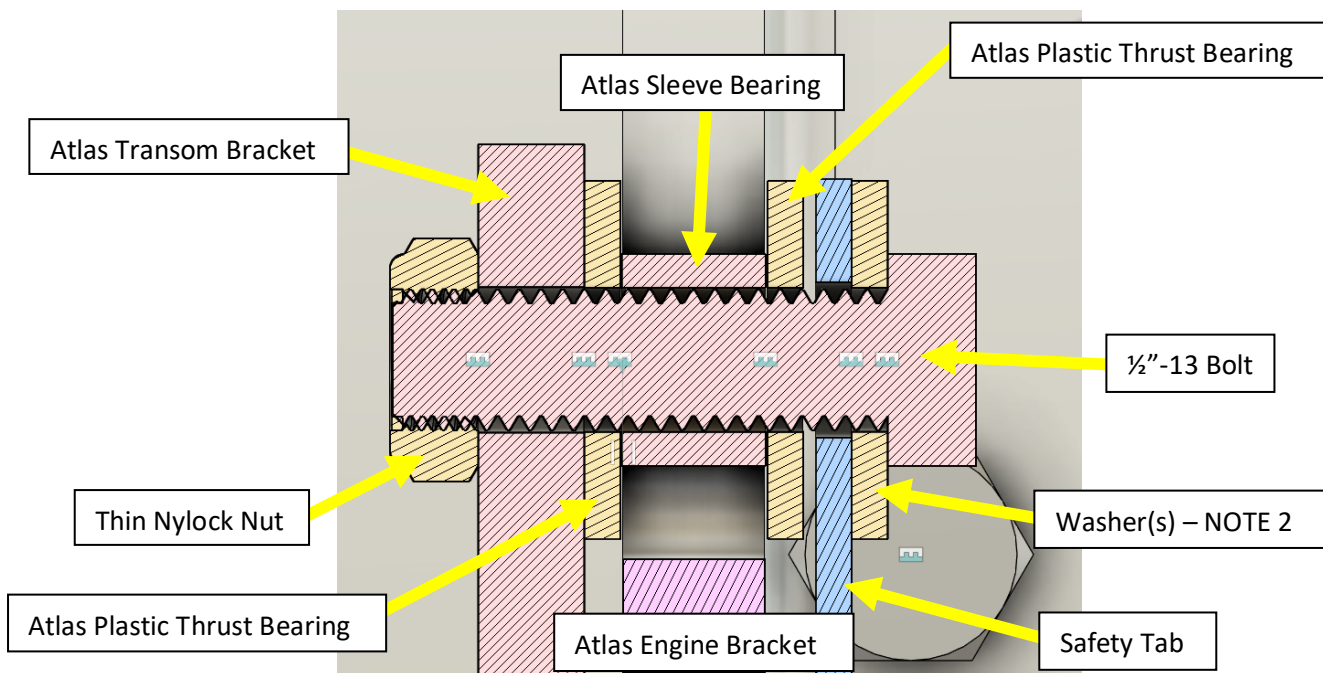

Figure 2 - Safety Tab with OEM TH Marine Bearings
- b. Place two washers on the NEW ½"-13 x 1.75 Cap Screw or reuse the single large Atlas outer washer (NOTE 2 in Figure 2) then insert through the safety tab and through the bearings.